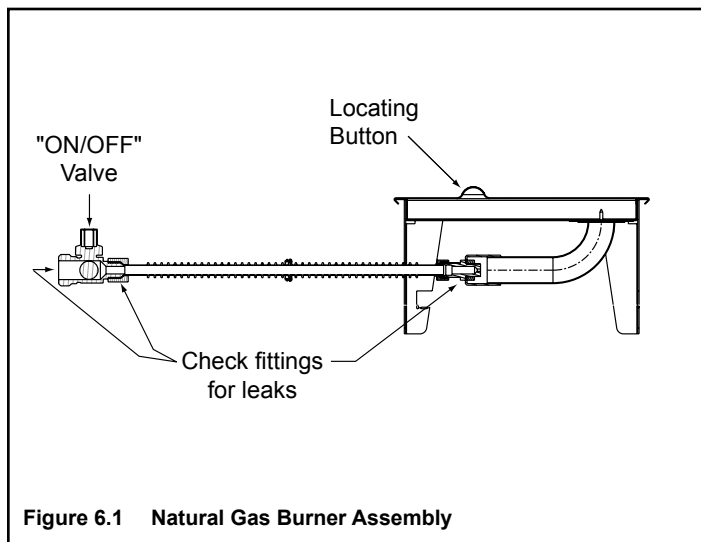

Figure 6.1 Natural Gas Burner Assembly
- Connect the ON/OFF gas valve of the appliance to the incoming gas supply line. See Figure 6.1. Make certain all gas connections are tight.